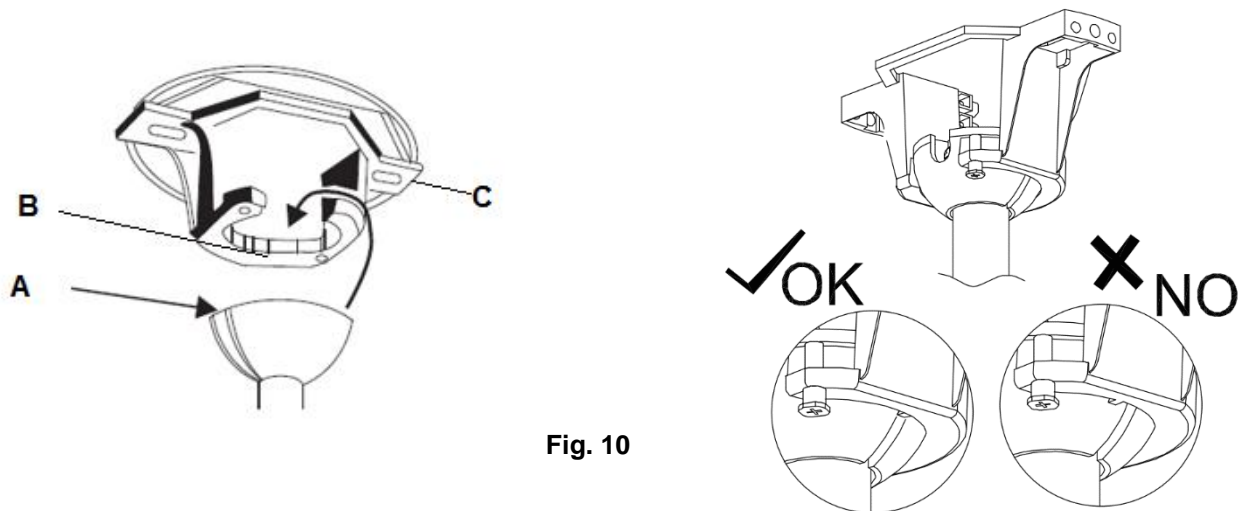

Fig. 10
Lift the fan assembly onto the mounting bracket. Ensure the key slot (A) of the hanger ball is positioned on the key pin (B) of the mounting bracket (C) to prevent the fan from rotating when in operation. (Fig. 10)
Hang the fan (Refer to “hanging the fan” Fig. 10 , page 8).